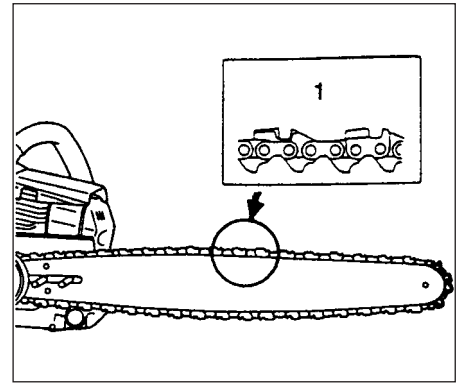

Fig.1-2
2. Confirm the direction of saw chain (1) is correct as in the figure, and align the chain on the sprocket. (Fig. 1-2)